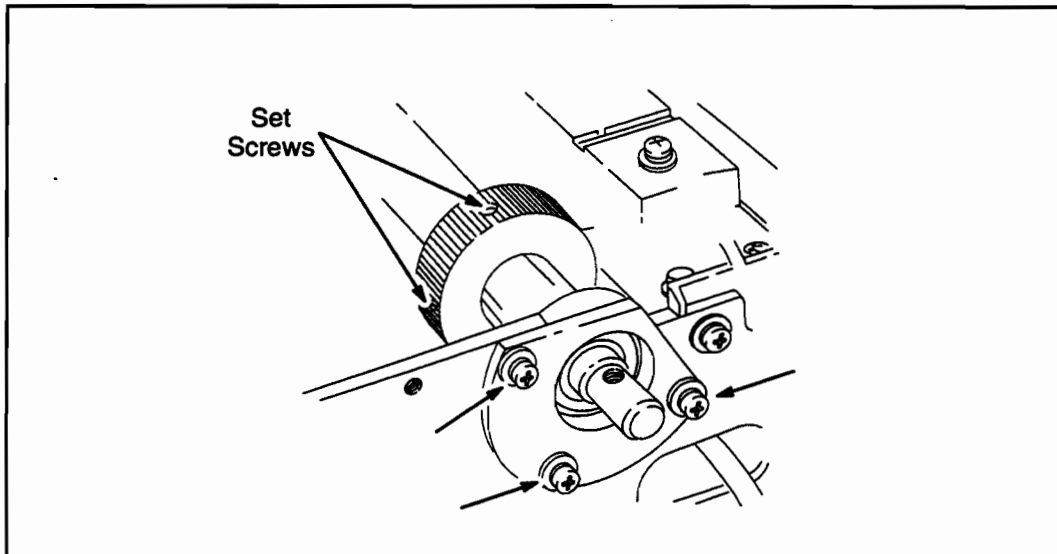

Figure 6-75. Roller Shaft Removal
9. Using a #2 stubby screwdriver, remove the three shaft bearing-assembly mounting screws located on the right end of the shaft. See Figure 6-75.
12. Using a 2 mm hex wrench, loosen the two set screws holding the right gear to the shaft. See Figure 6-75.